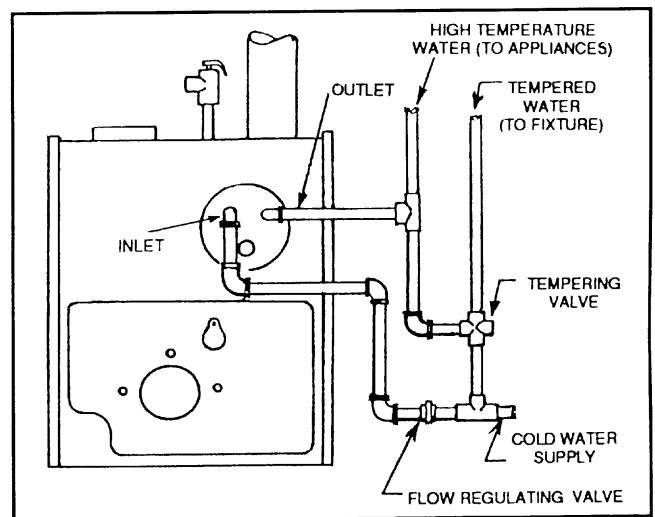

Figure 6. Recommended Piping to Tankless Heater
- II. Pipe the built-in tankless heater using the inlet and outlet tappings indicated on the heater (figure 6).
- All readings MUST be taken at the test port in the flue adapter. See Figure 6 for test port location.